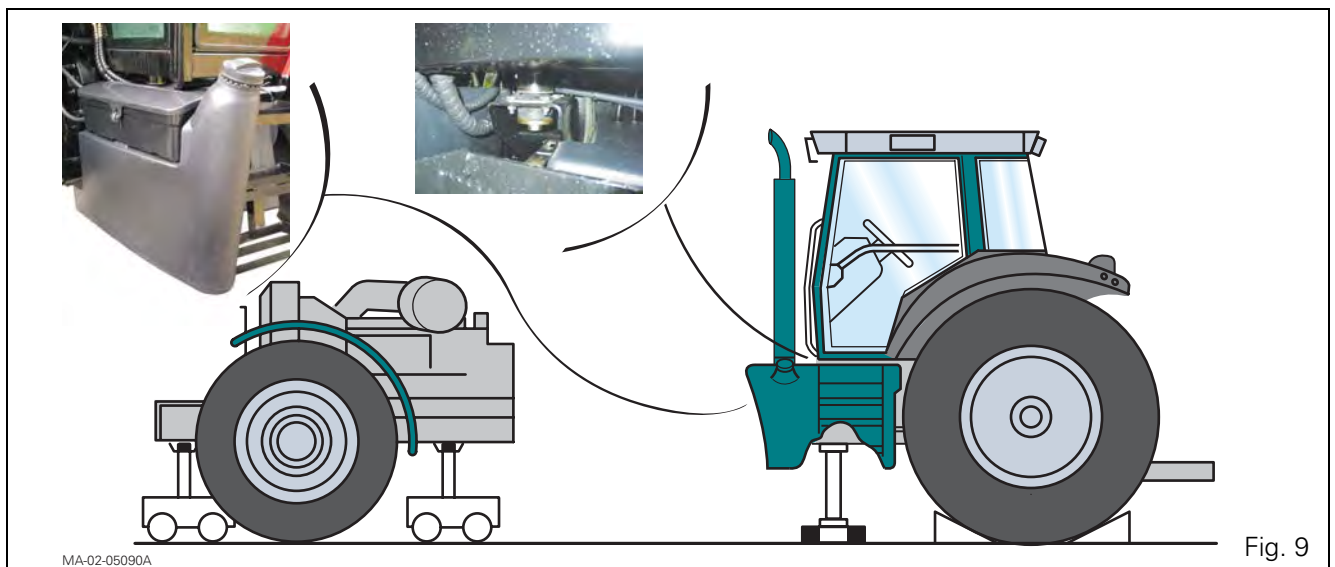

Fig. 9
18. Install (Fig. 9):
22. Assisted by an operator, separate the assemblies (Fig. 9).